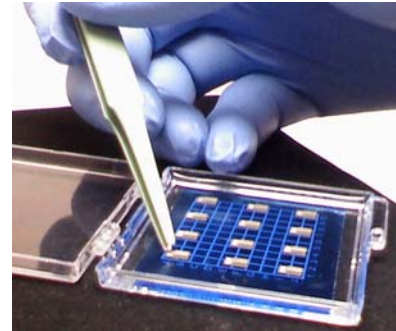

Figure 2
- Place tweezers at the Bottom Header and Gelpak interface [Figure 2] on the bond pad (or wire) end of the module